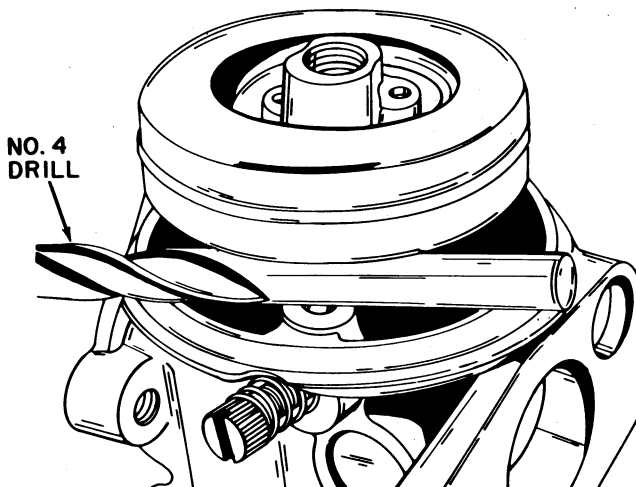

Figure 6
6. Check the position of the float as shown in Figure 6. The carburetor body is inverted and a number 4 drill (.209") is positioned between the rim of the body and the float. The drill should be parallel to the float shaft, and have the center passage between it and the float shaft. In this position the inlet needle should be seated.